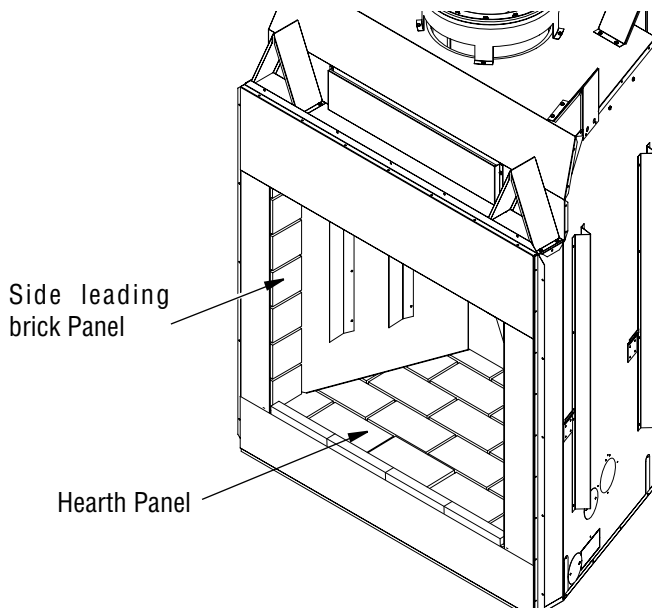

Figure 31 - Installing Hearth and Leading Brick panels
1. Install bottom brick panel. Using at least two people, hold bottom brick panel by its side edges. Place the back edge of bottom panel into the firebox first and carefully lower the front edge of panel. Make sure bottom panel is centered in the firebox and flush with the front of the fireplace. Be careful not to pinch your fingers between the panel and firebox (Figure 31).
2. Install the left and right side leading bricks (Figure 31).